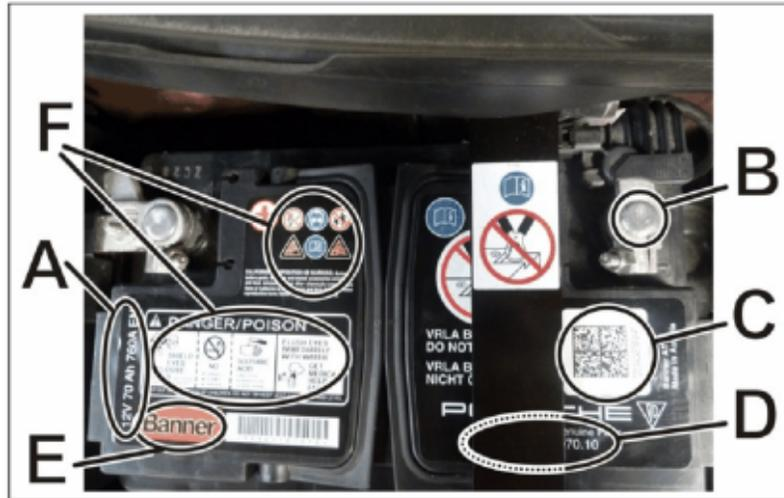

Figure 1
⇒ The specifications on the battery (in the vehicle) may differ from the specifications shown in Figure 1
⇒ **Illustration (⇒ Figure 1) serves only as an example.**
- Battery type: Rating in Ah (⇒ Figure 1 -Item A-),
- Date of manufacture of the battery (stamped on negative terminal): ⇒ Figure 1 -Item B-),
- Battery I-No. (for 2D code: ⇒ Figure 1 -Item C-),
- Item number (⇒ Figure 1 -Item D-) and
- Battery manufacturer (⇒ Figure 1 -Item E-),
- Safety instructions and warnings for handling the battery (⇒ Figure 1 -Item F-).